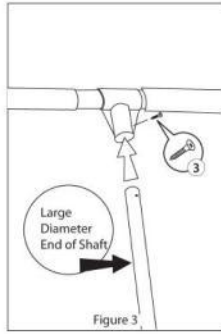

Figure 3
5. Assemble hanging pole by using screw (3) as shown in Figure 3.